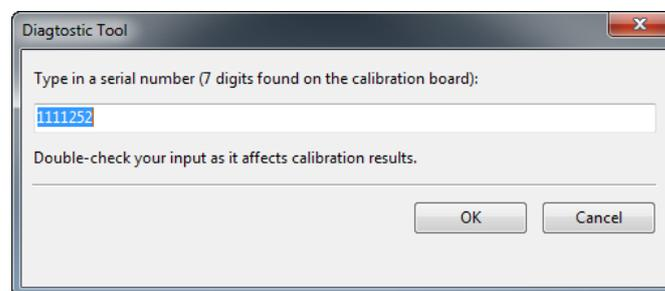
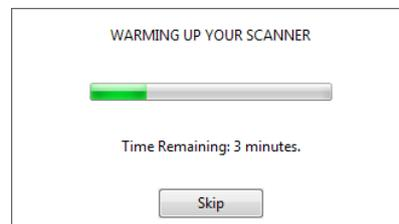

Figure 136: Entering serial number of calibration board.
Figure 137: Warming up the scanner.
6. Click *Start calibration*. A dialog box will open (see Figure 136); enter the serial number of your calibration rig (it appears on the board). If the scanner temperature is outside the optimal range—for example, you just connected the device to a power outlet—the tool will notify you of this condition (see Figure 137). We advise against clicking *Skip* and instead recommend waiting for the Artec Spider to reach its optimal temperature.